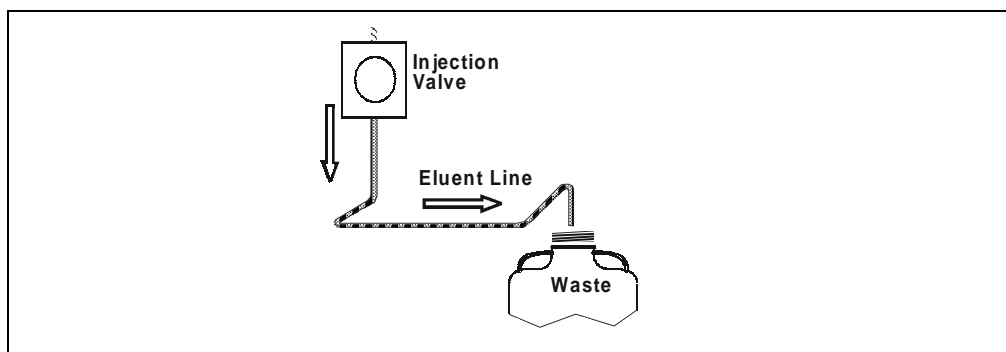

Figure 5-7. Measuring Backpressure: Step 3a
- a. Disconnect the eluent line from the injection valve to the column at the column inlet and direct it to a waste container (see Figure 5-7). Turn on the pump at your application flow rate. After 2 to 3 minutes of equilibration, record pressure P1. Turn off the pump.